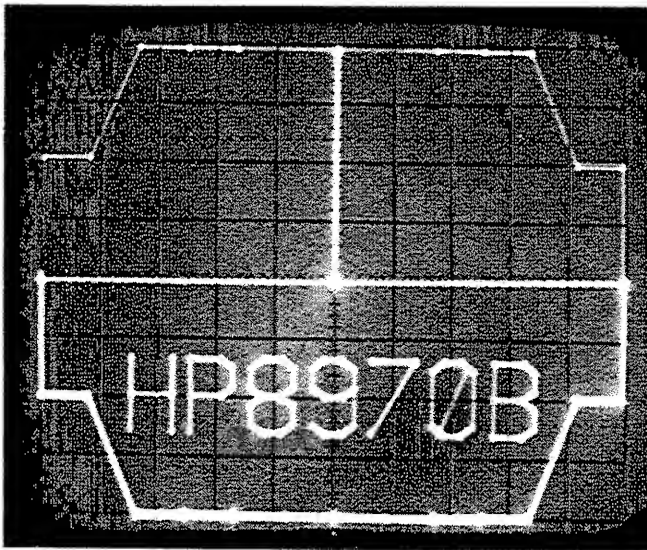

Figure 3-12. Test Pattern on Oscilloscope
5. On the Noise Figure Meter, press 7 . 1 SPECIAL FUNCTION. Verify that a test pattern is seen on the display. It may be necessary to adjust rear panel GAIN TRACE control to obtain the test pattern. The test pattern should be 6 ± 0.5 volts vertically and horizontally. Adjust the display until the test pattern fills the grid area (see Figure 3-12). Press 7.0 SPECIAL FUNCTION to enable the Noise Figure Meter to output the noise figure and gain data to the display.